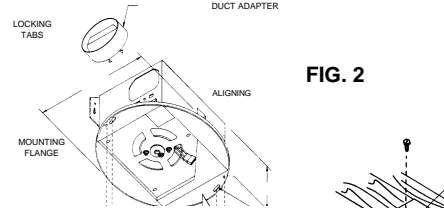

FIG. 2
2. Attach duct adapter to housing by first hooking mounting flange over edge of air discharge opening. Pivot duct adapter insuring (2) aligning tabs are inside opening and align (2) locking tabs with small rectangular holes. Press firmly into holes to lock. See Fig.2.
4. Install duct adapter. (See Fig. 2).